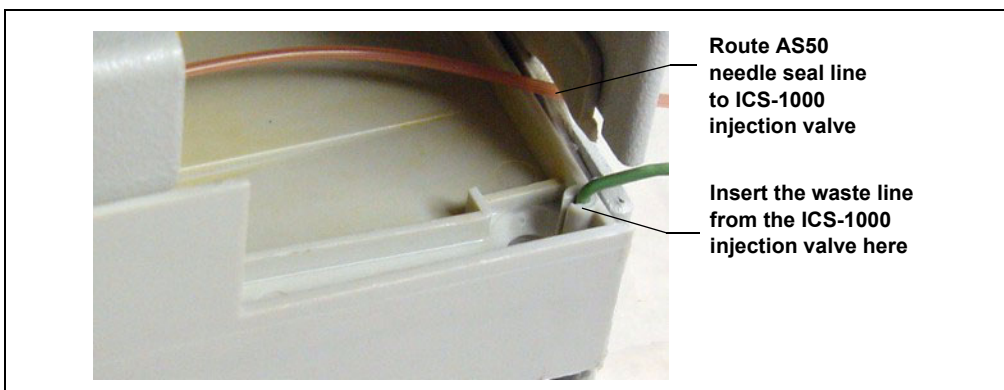

Figure B-38. AS50 Drip Tray
3. The needle seal line that extends from the inject port in the autosampler is coiled inside the AS50 door, on the right side. Route this line through the AS50 right side slot (see Figure B-38) and the ICS-1000 left side slot to the ICS-1000 injection valve.
6. Push the end of the green **AS50 TRAY** line into the small round opening on the right side of the AS50 tray (see Figure B-38).